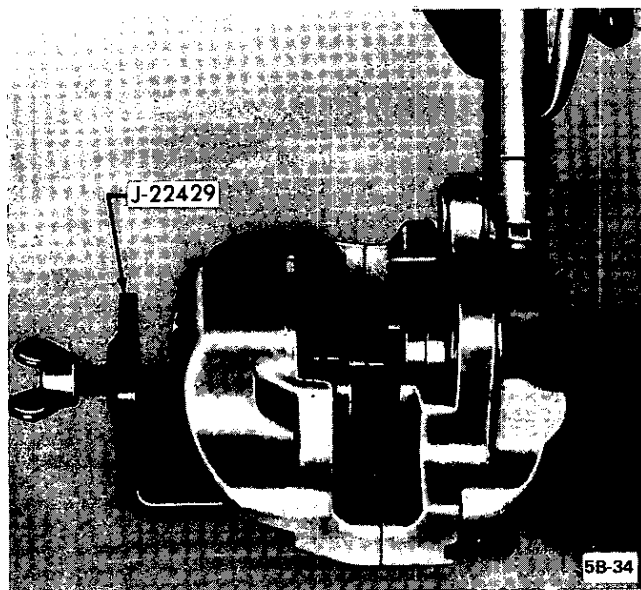

Figure 5B-34 Removing Caliper Mounting Half Piston
4. Pry rubber fluid seals out of the annular grooves in the caliper half bores. See Figure 5B-35.